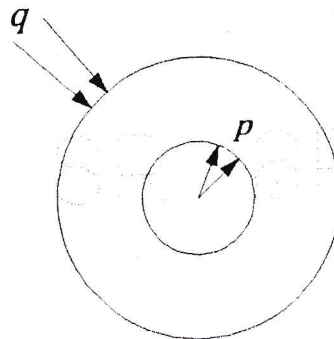

Figure: 2
- 3.a) The plate shown in figure 2 rotates with a constant angular velocity ω about its axis. The pressures $p = q = 0$. Determine the state of stress and the radial displacement when the boundary conditions alternatively are given by :